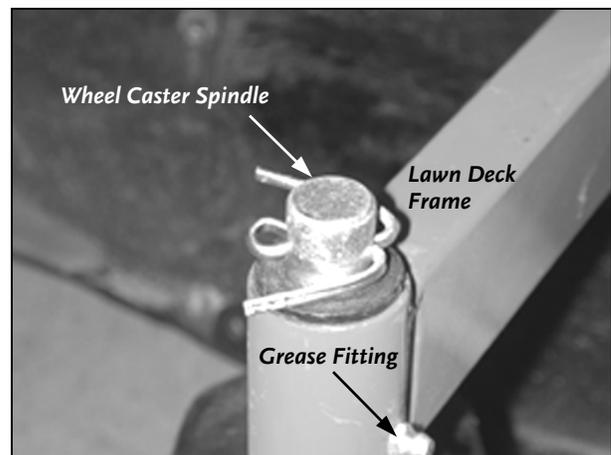

Figure 16
2. Grease the Left and Right Fitting on the Lawn Deck Frame where the Wheel Castor Spindle swivels (**Figure 16**).